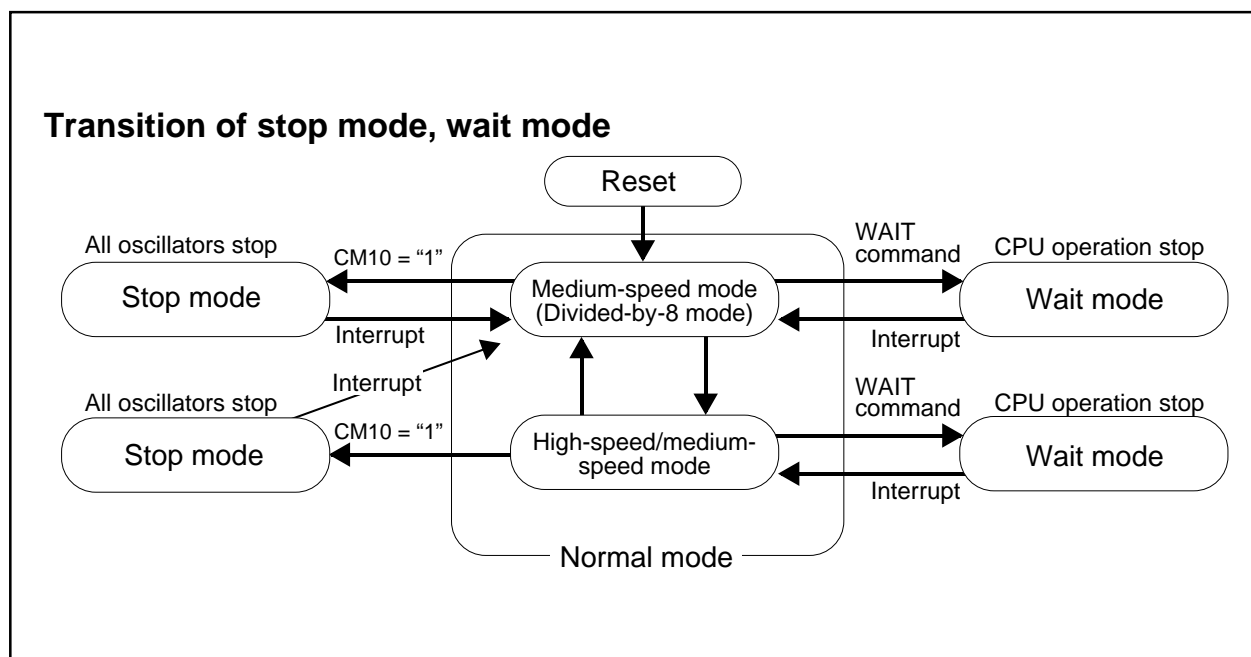

Fig.WA-4 State transition diagram of Power control mode
Fig.WA-4 is the state transition diagram of (1) to (3).